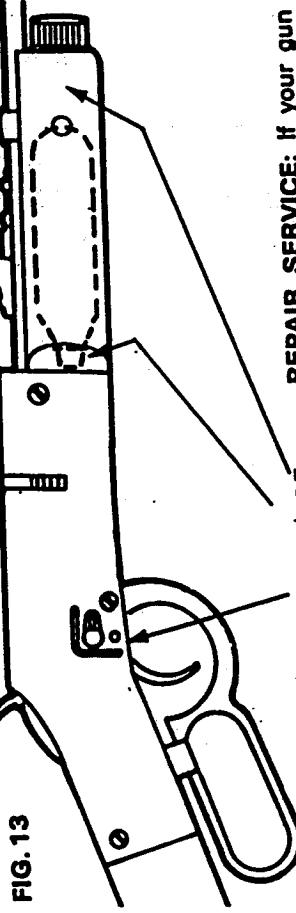

FIG. 13
2. Put 2 or 3 drops of PELLGUNOIL in the three places shown in (FIG. 13). every 250 shots or when it looks dry.